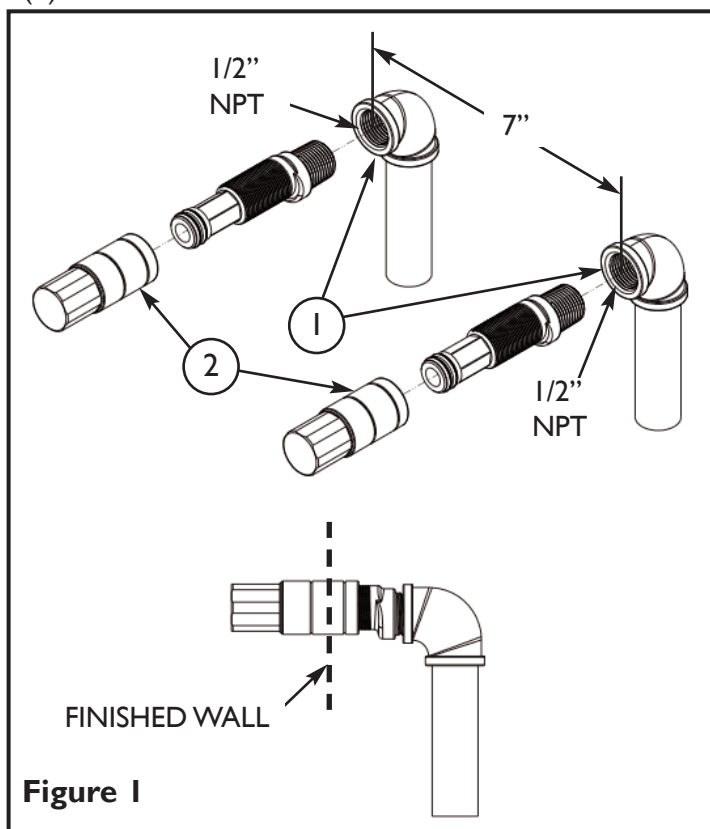

Figure 1
1. Place two 1/2" NPT ELBOW (1), not included, 7" apart (center to center). Use the two lines on the TEST PLUGS (2) to determine the depth of the ELBOWS (1). The finished wall must fall between the two lines on the TEST PLUGS (2). See **Figure 1**.